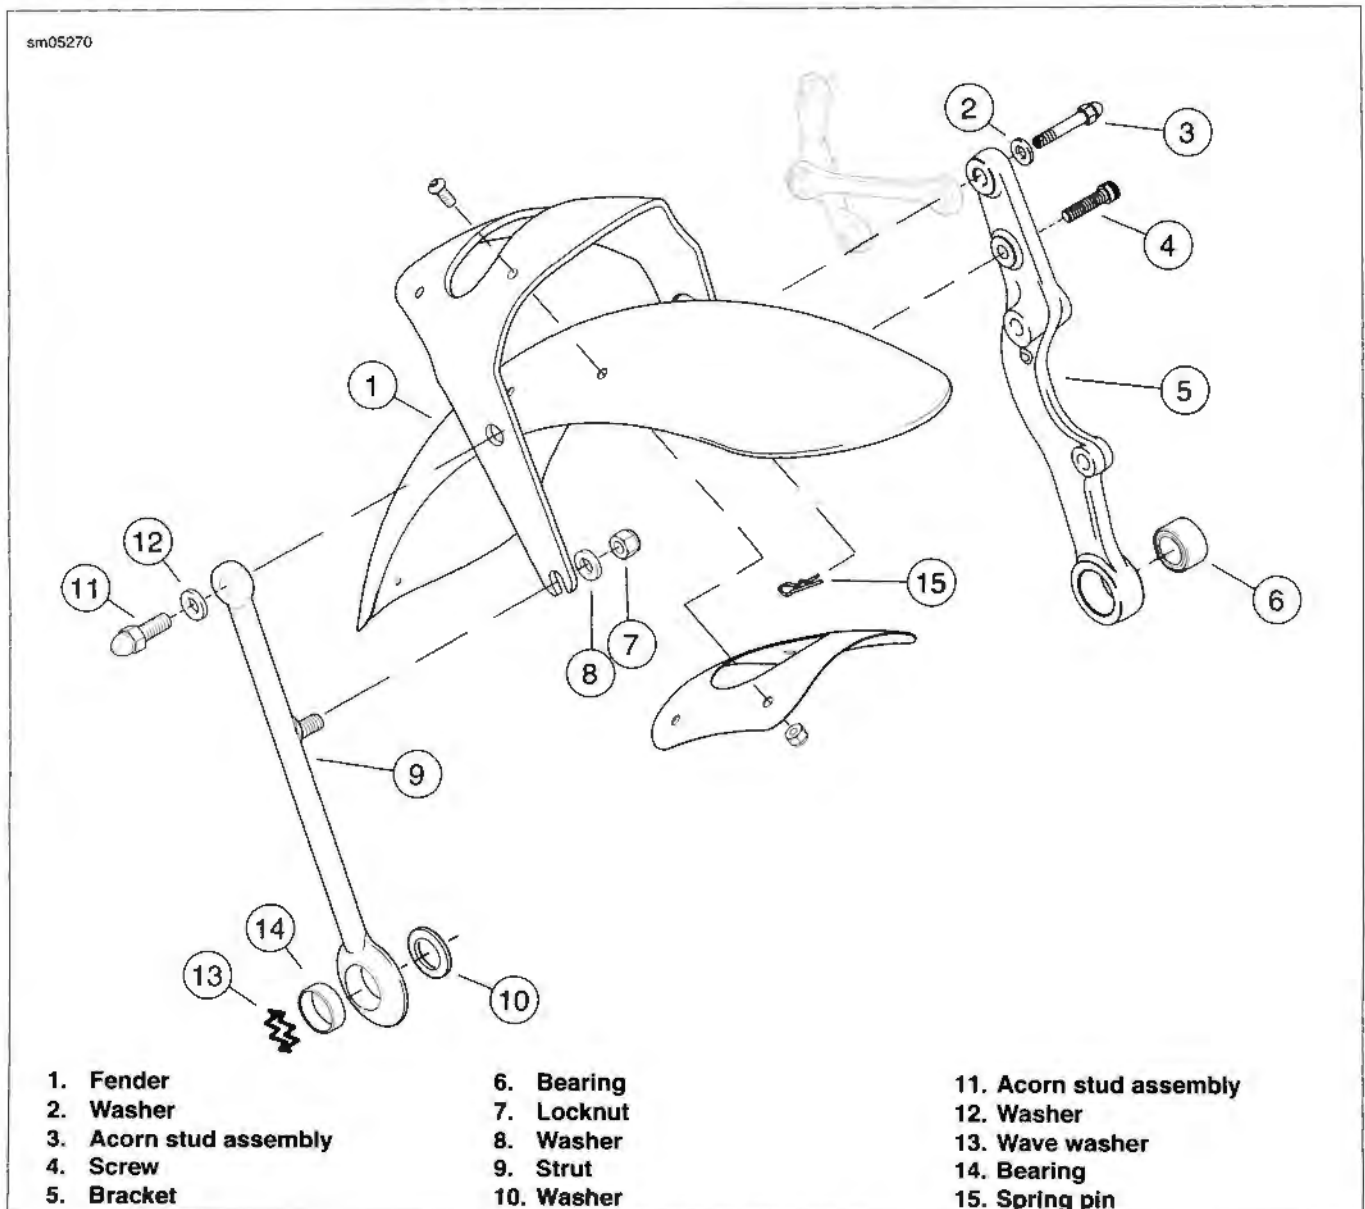

Figure 2-107. Front Fender: FLSTSB
1. See Figure 2-107. Loosen locknut (7).
2. Remove screw (4).
3. Remove spring pin (15) and acorn stud assemblies (3, 11). Pull fender away from front fork.
1. See Figure 2-107. Place fender into position and loosely install acorn stud assemblies (3, 11).
2. Install screw (4) and tighten to 18-22 ft-lbs (24.4-29.9 Nm).
4. Tighten locknut (7) to 25-30 ft-lbs (33.9-40.7 Nm).
5. Install **new** spring pin (15).